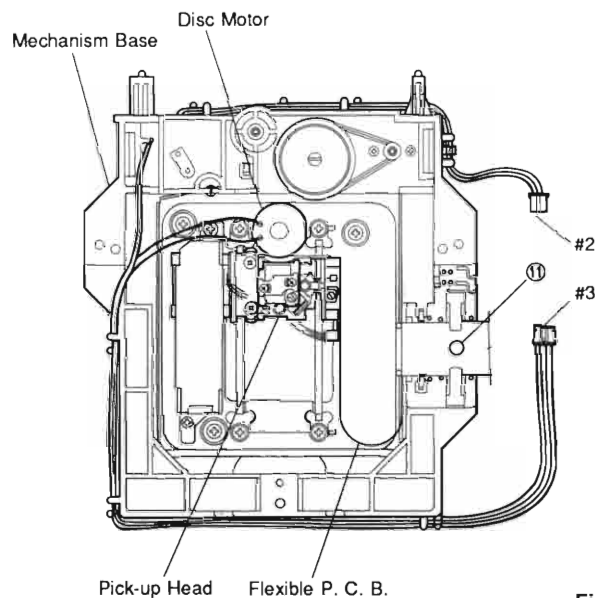

Fig. 4
- Remove a plastic rivet (⑪) and then remove the flexible P. C. B from the mechanical base in Fig. 4.
- Disconnect the connector (#3) of the disc motor from the mechanical base in Fig. 4.